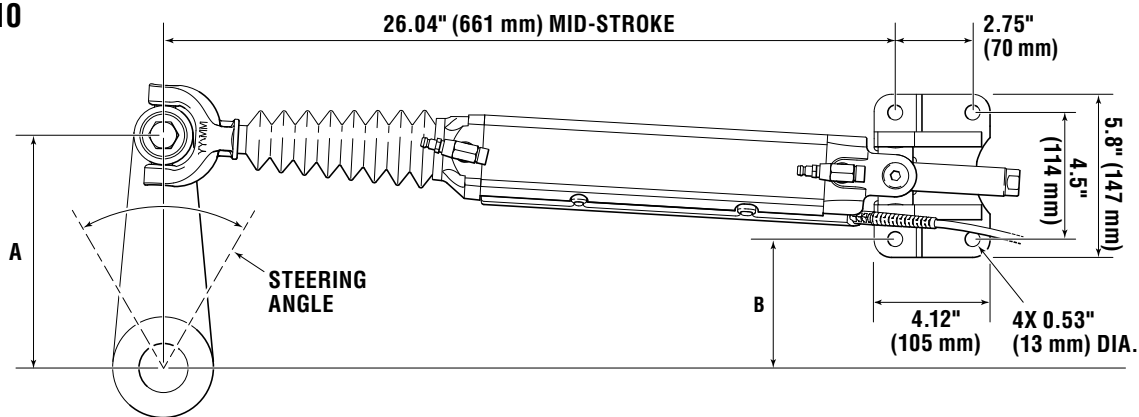
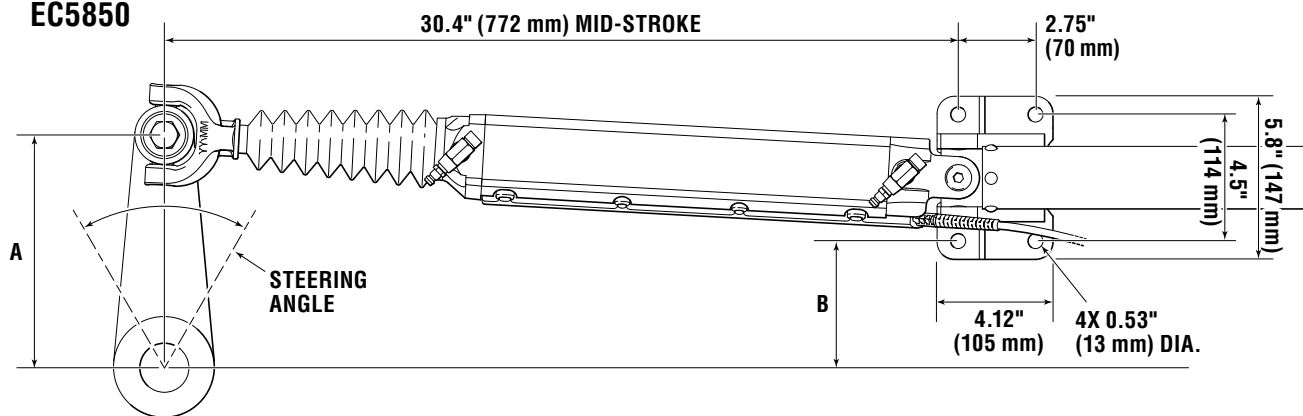

Figure 5-15. EC5810 cylinder.
Figure 5-16. EC5850 cylinder.
3. Place mounting foot in location indicated in figure 5-15 or figure 5-16 and table 5-2 for desired steering angle. Shim under the feet as necessary to make the cylinder as level as possible. Vertical misalignment will accelerate cylinder wear.